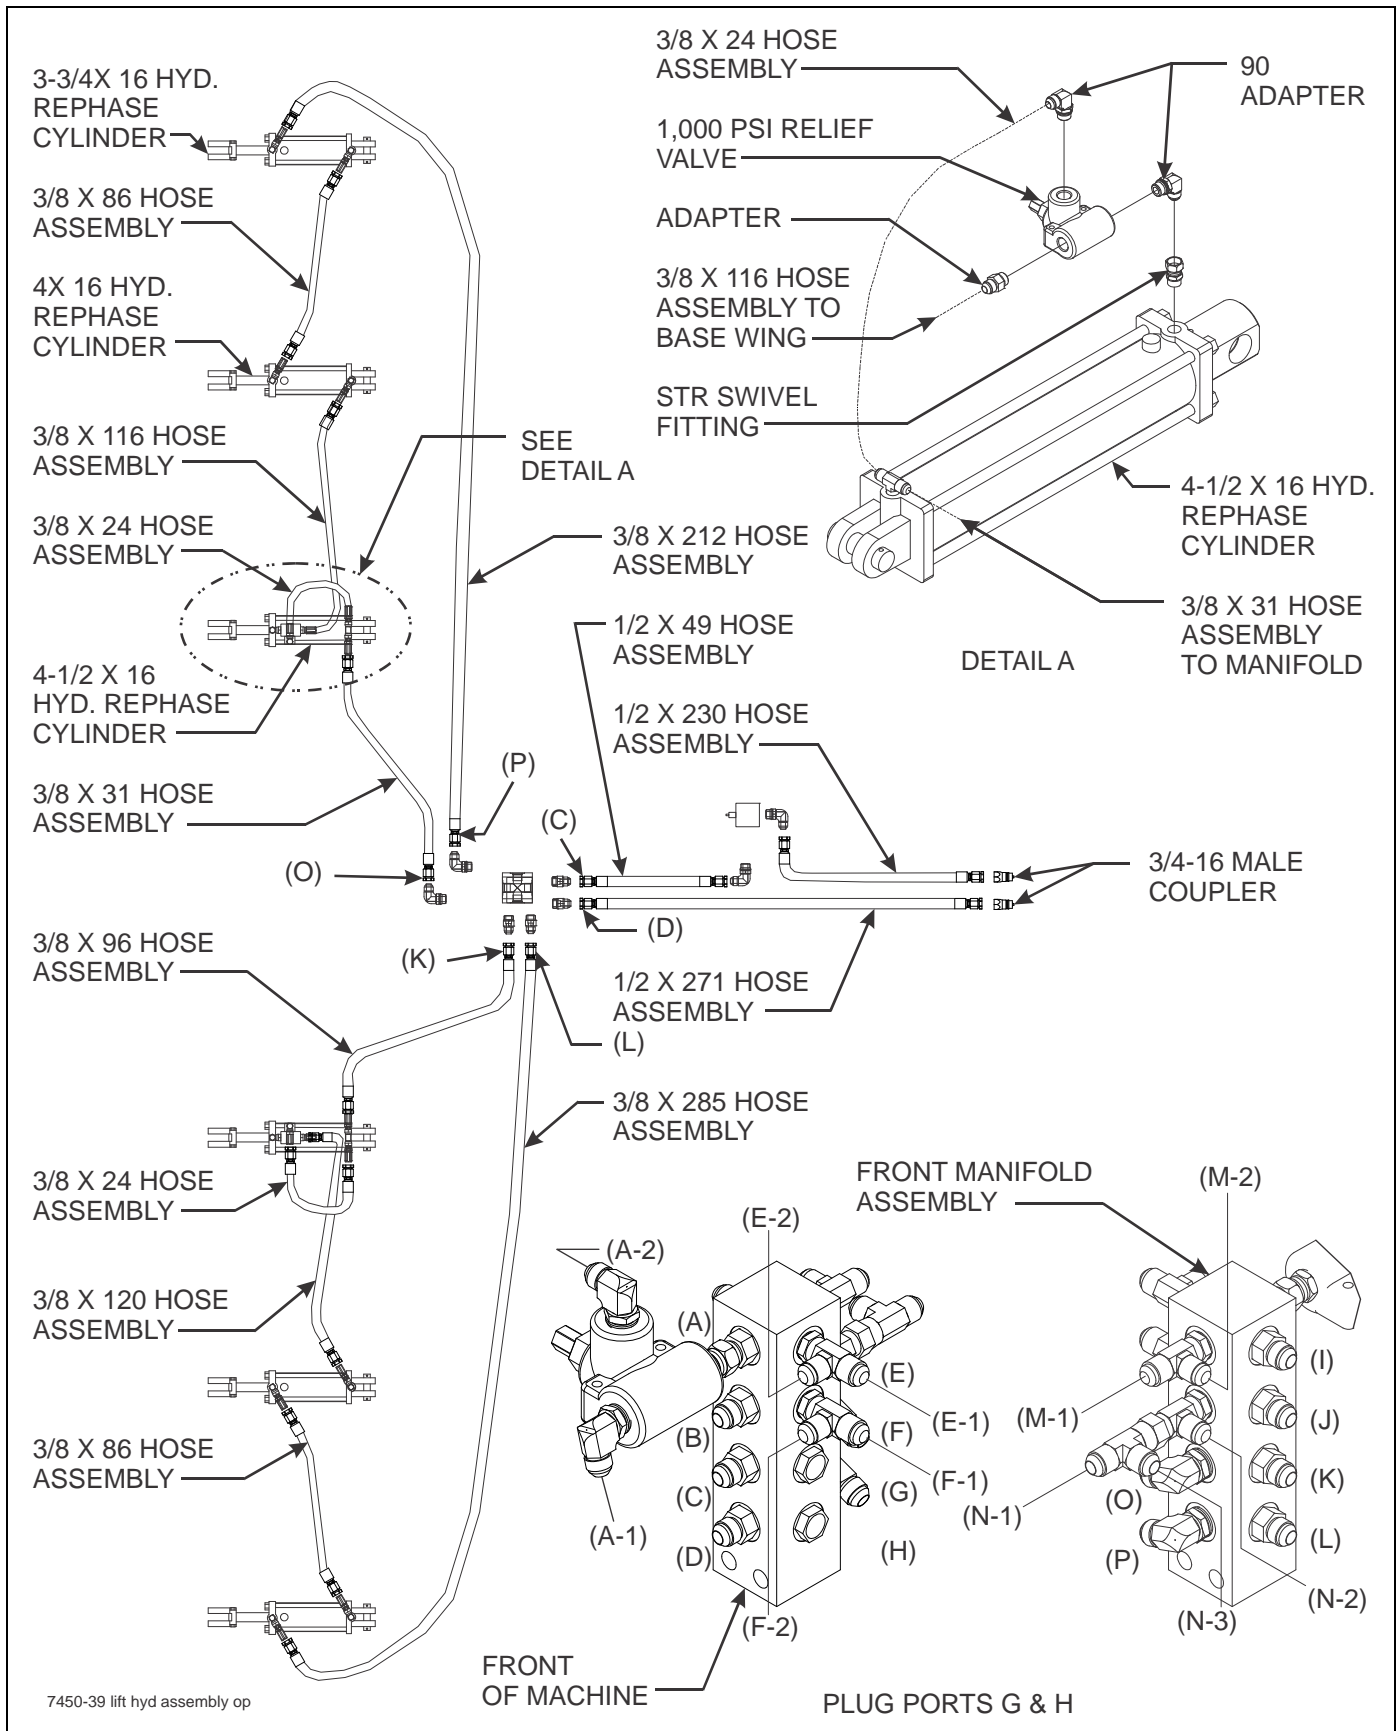

Figure 3-11: Lift Hydraulic Installation (39' Model)
See Figures 3-11 through 3-16 for hydraulic cylinder fittings (factory installed and those installed during setup).
Refer to Figures 3-11- 3-12 for lift and fold hydraulic diagrams for 7450-39' model.
7. Attach the 8 port manifold to the rear manifold bracket on the implement using 1/2-13 x 3-1/2 hex head cap screws and hex lock nuts. Install lift system hoses per **Figures 3-11 and 3-15**. Wrap lift system hoses with blue hose wrap.